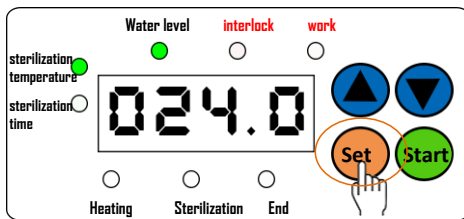
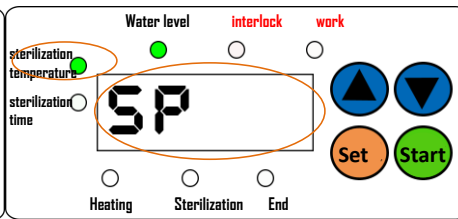
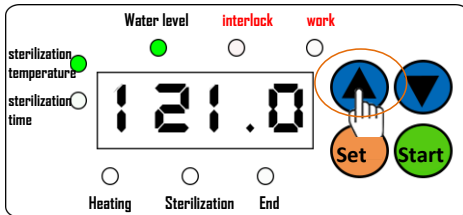
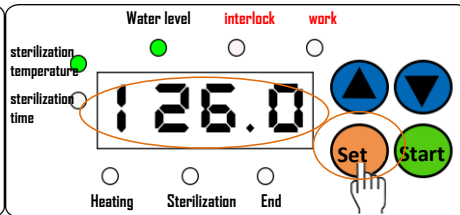

Fig. 9
Fig. 10
Fig. 11
Fig. 12
① Set the sterilization temperature: press the setting key **SET** (Fig.9) on the control panel, and the sterilization temperature indicator lights up. When SP (Fig.10) appears on the display screen, press the up and down movement keys **▲** **▼** (Fig.11) to adjust. After the adjustment of the required sterilization temperature value, press the setting key twice in succession to confirm the new sterilization temperature data storage (Fig.12).